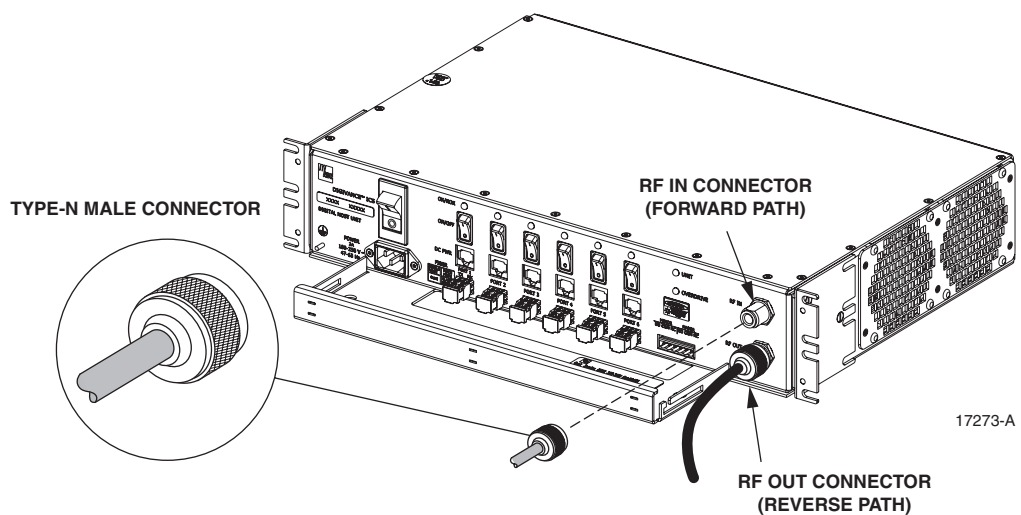

Figure 17. Forward and Reverse Path Coaxial Cable Connections
4. Connect the forward path cable to the **RF IN** connector on the DHU front panel as shown in Figure 17.